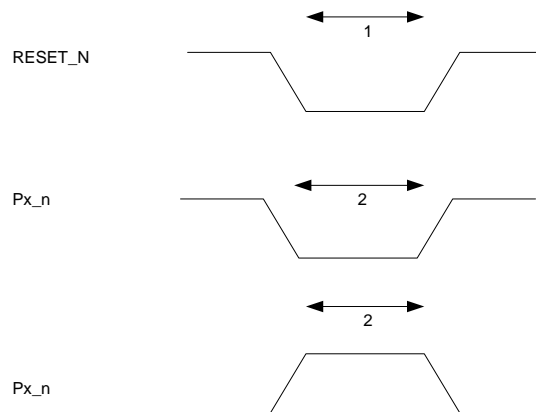

Figure 4: Control Inputs AC Characteristics
| RESET_N low width  | 250                |     |      | ns   | See item 1, Figure 4. This is the shortest pulse that is guaranteed to be recognized as a reset pin request.Note: Shorter pulses may be recognized but will not lead to complete reset of all modules within the chip. |
| Interrupt pulse width  | t SYCLK |     |      |      | See item 2, Figure 4. This is the shortest pulse that is guaranteed to be recognized as an interrupt request. In PM2/3 the internal synchronizers are bypassed so this requirement does not apply in PM2/3.                       |